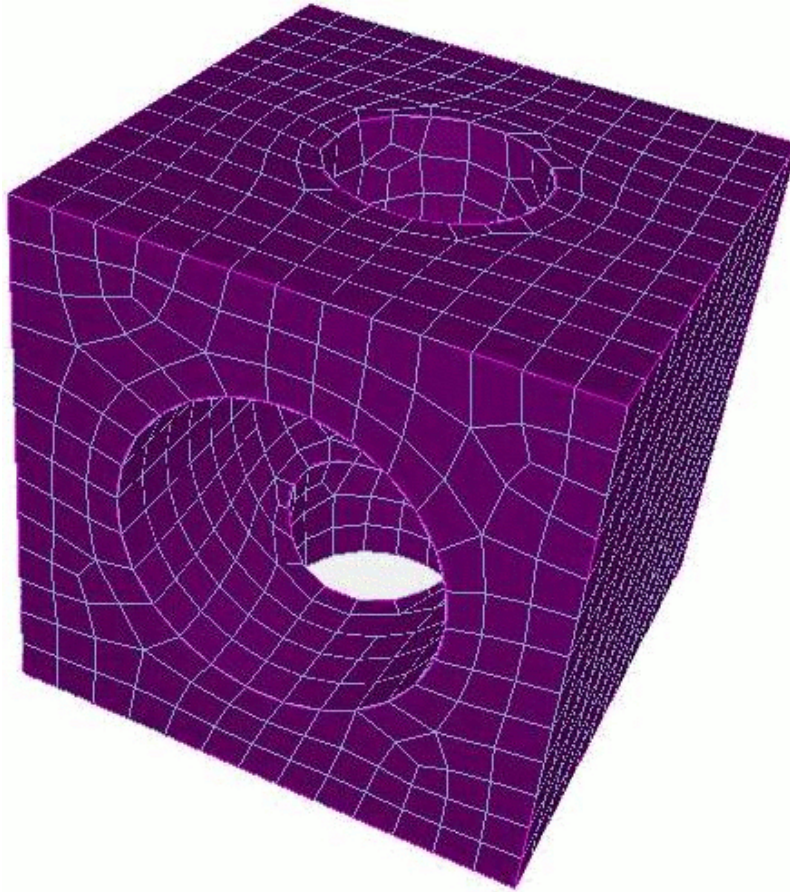

Figure 5: Final mesh after deleting unneeded elements
Step 4: Final step. Figure 5 shows the final mesh after the mesh of the mesh of the two extra volumes is deleted. The commands are: